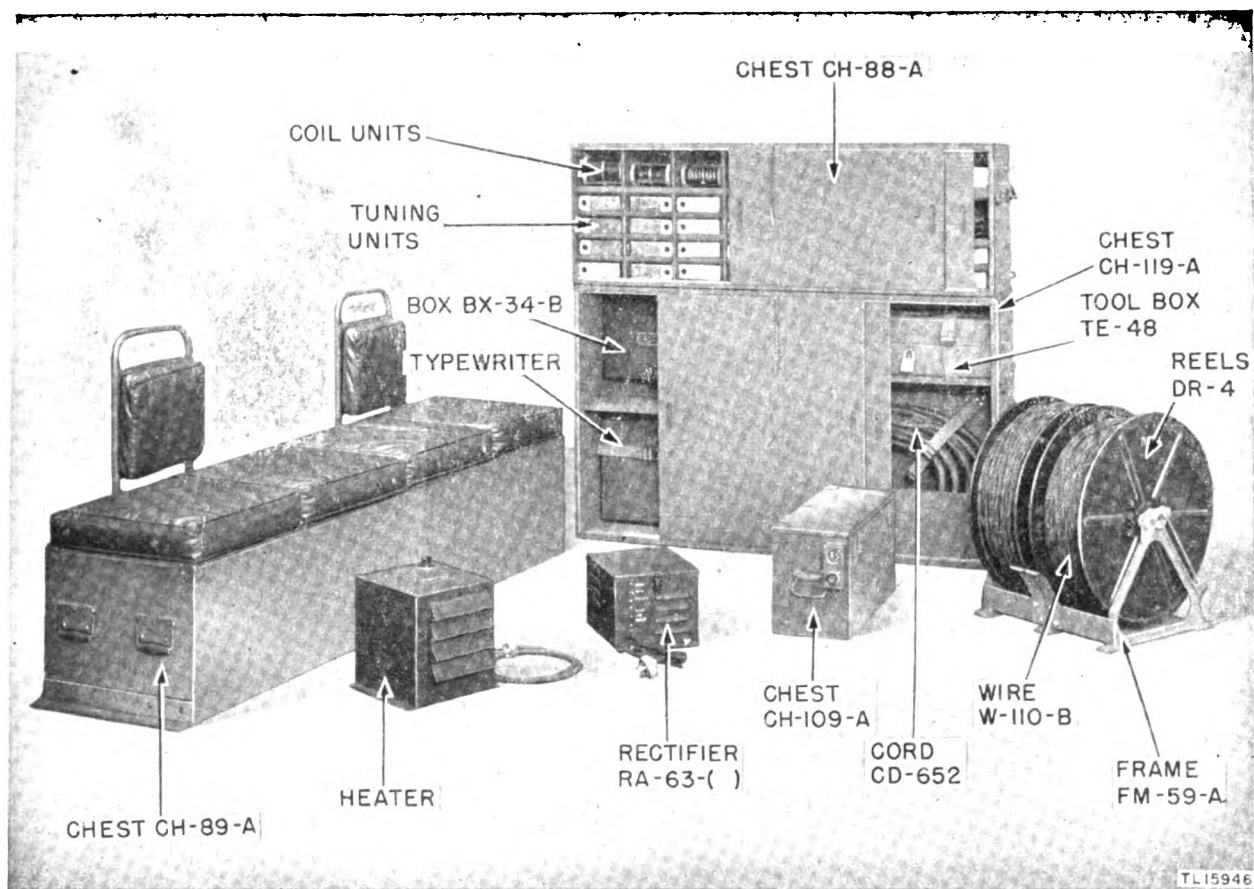

Figure 17. Accessory components of Radio Sets SCR 399-A and SCR-499-A.
21. Rectifier RA-63-(*) (fig. 17)
(1) Two Telephones EE-8-(), one in Chest CH-120-A and one in Chest CH-121-A.
(2) Junction Box JB-60-A, stowed in Chest CH-121-A.
(3) Key J-45, stowed in Chest CH-121-A.
(4) Two Reels DR-4, mounted in Frame FM-59-A. (See fig. 17.)
(5) Wire W-110-B, approximately ½ mile on each Reel DR-4.
(6) Axle RL-27-B, stowed in Chest CH-89-A.